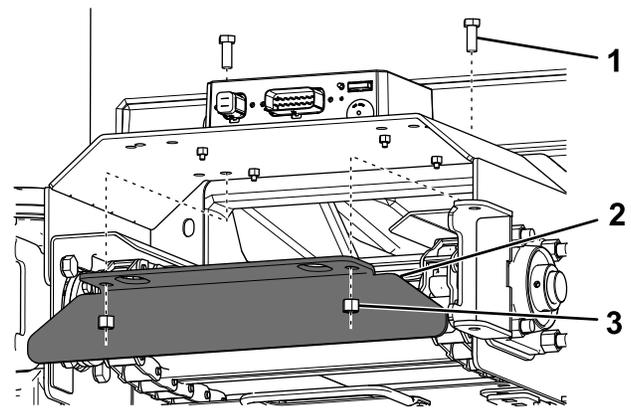

**Figure 22**
3. Remove the fasteners securing the front cover to the hopper (Figure 22).